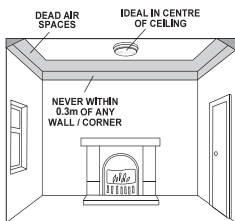

Figure 1
- At least 0.3m away from walls. See **Figure 1**.